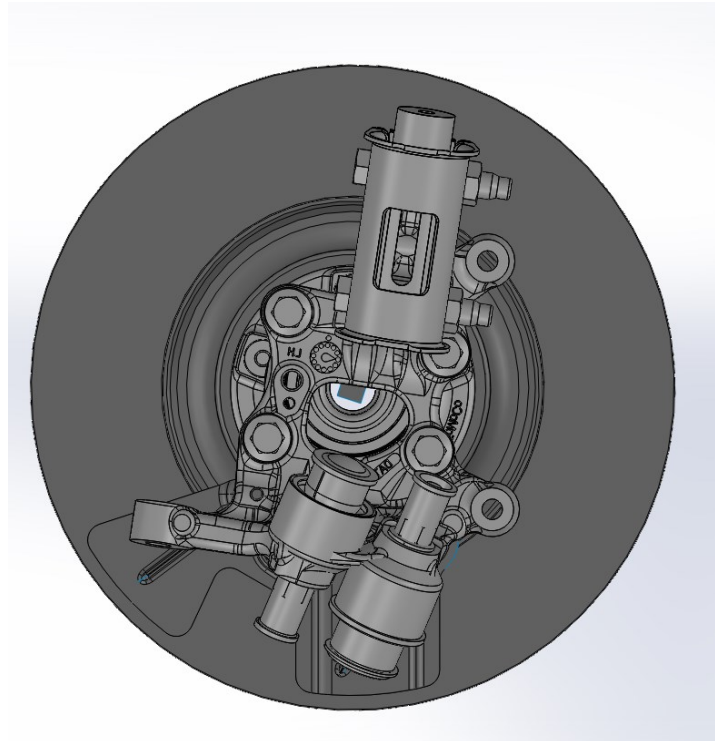

Figure 2. Removal of the factory caliper
4. Carefully remove the caliper from the knuckle and retain, supported inside the vehicle wheel well (Figure 2). **DO NOT** allow the caliper to remain suspended in the air via the brake hose, this can damage the brake hose. Disconnecting the caliper from the brake hose is **NOT** necessary, doing so will require you to properly bleed the brake system per vehicle manufacturer specifications following reinstallation.